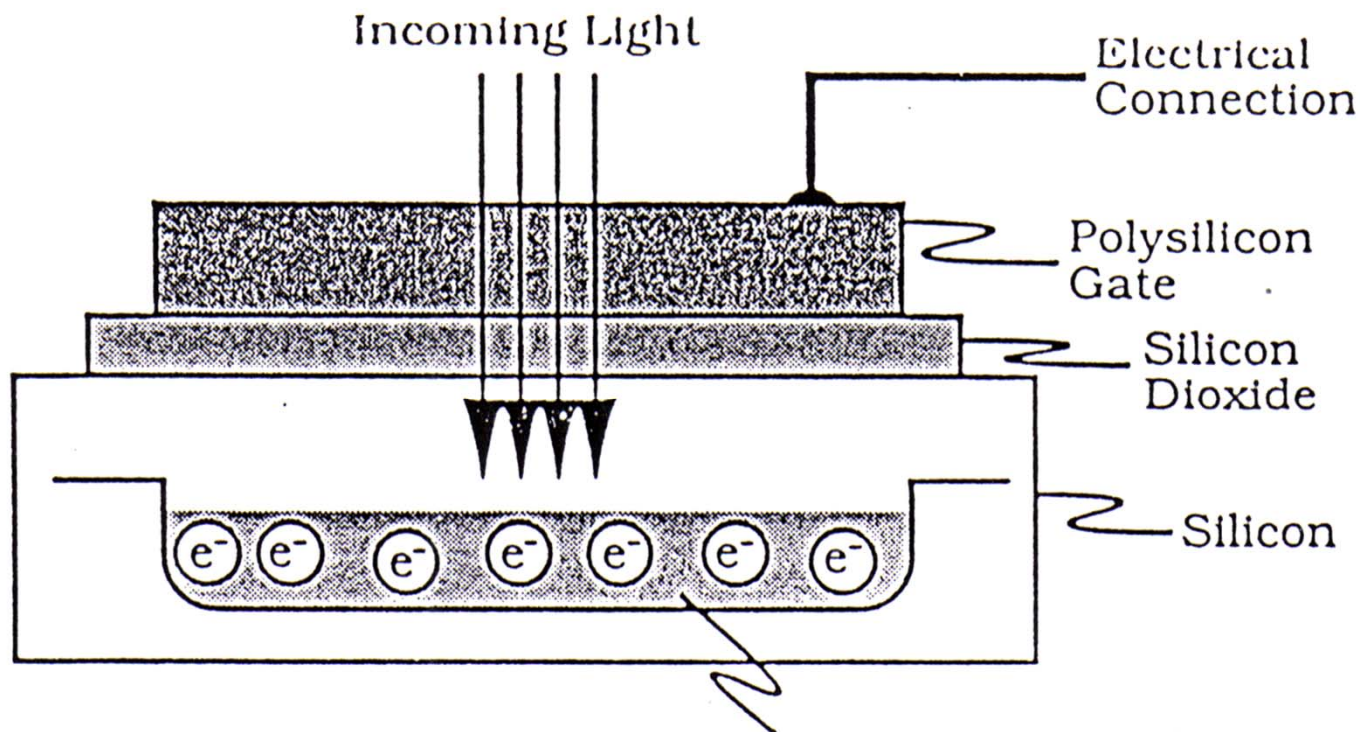

Figure 4
(2) Exposure
- ❖ These electron charges are then stored in a metal-oxide semiconductor (**MOS**) capacitor (potential well) associated with each pixel (Fig.4).